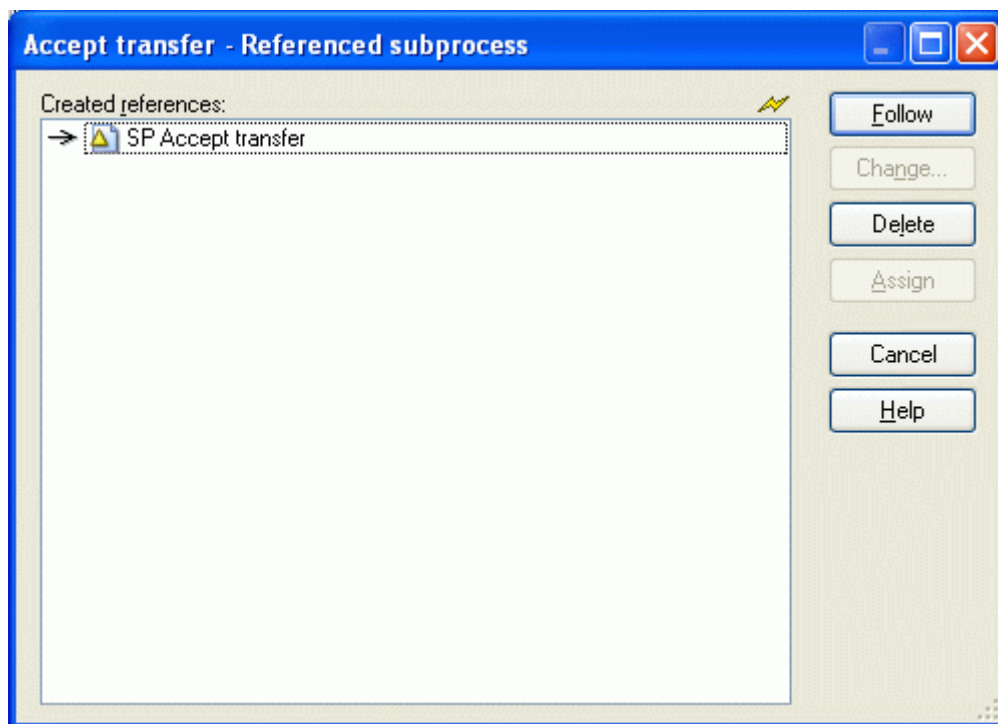

Figure 44: Editing a model reference attribute
**References to models** in the list "Reference targets" (see fig. 44) will show the following information: